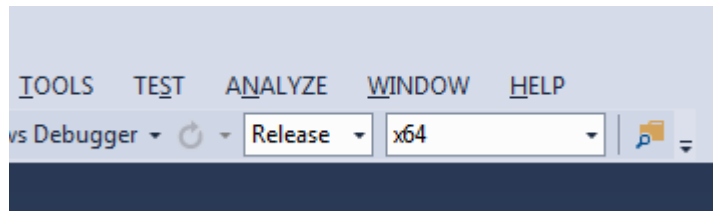

Figure3.1-2 Build configuration for MSVC
6) Choose **Release** and **x64** from the pull-down list as shown in Figure3.1-2.